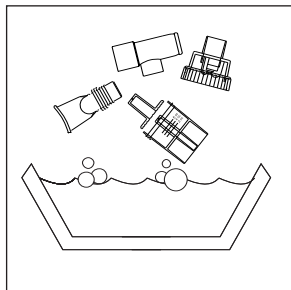

Figure 9
1. Using a clean container or bowl, soak items in three parts hot water to one part white vinegar for 30 minutes (**Fig. 9**) OR use a medical bacterial-germicidal disinfectant available through your provider. Be sure to follow manufacturer's instructions carefully.